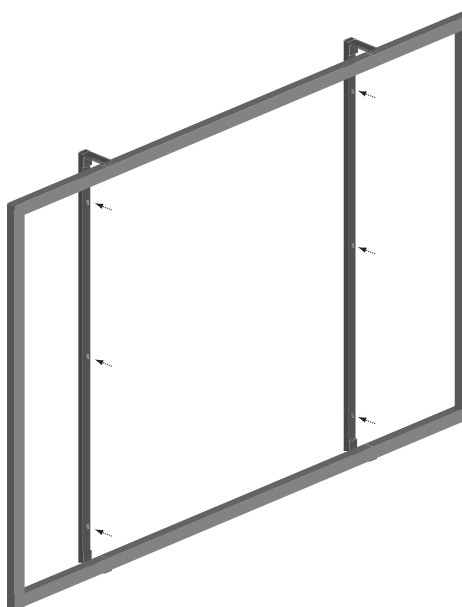

Figure 3: Positioning the Frame
3. Bolt wall boards to brackets using the supplied 1/4-20 x 3/4" hex head bolts (see Figure 3).